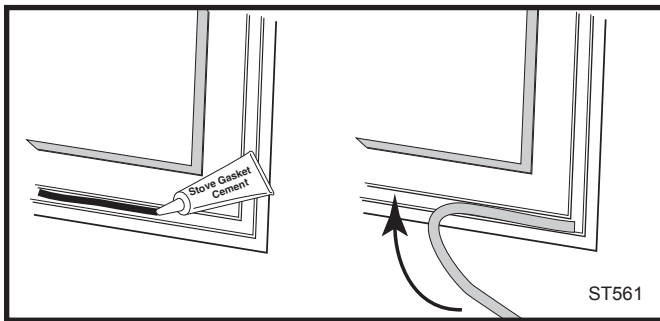

Fig. 31 Lay a bead of gasket cement then press new gasket in place.
5. Lay an unbroken 3 mm (1/8") bead of gasket cement in the newly-cleaned channel. Starting at one end, press the gasket into the channel. Ensure a good joint where the gasket meets before trimming any excess. Do not overlap the gasket ends or leave ends with ragged edges. (Fig. 31)